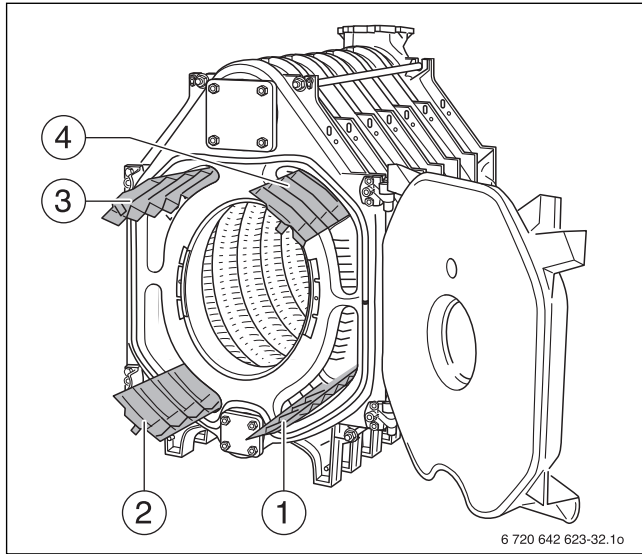

Fig. 34 Heat exchanger baffle plates
- ▶ Take flue gas baffles out of the fittings case and insert into the flue gas passages as indicated by the inscription on them (→ Fig. 34 and Tab. 11).